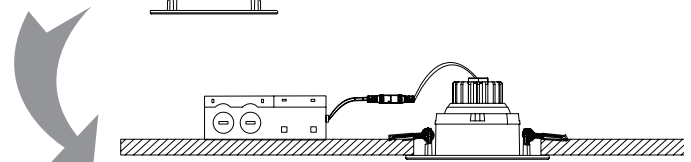

Figure 5
5. Turn on the power after installation, check the fixture can work well (see Fig 5).